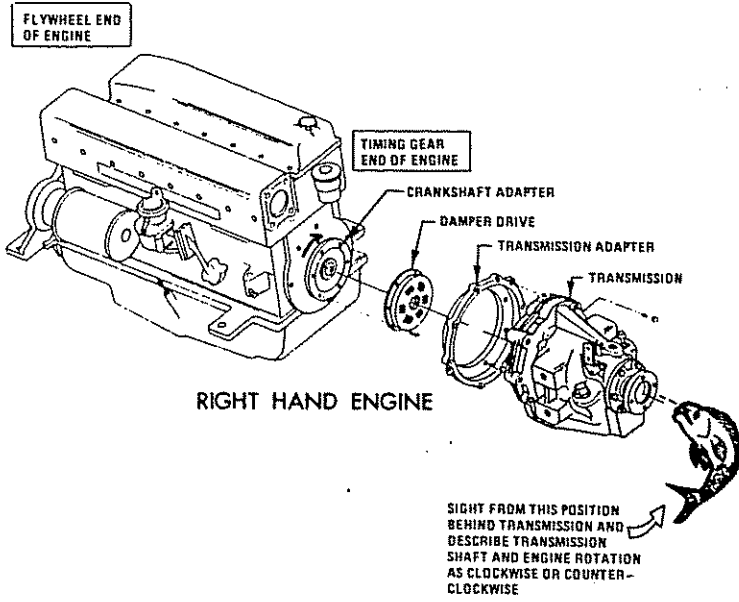

FIGURE 16 TYPICAL TIMING GEAR END INSTALLATION
Modern marine engines are available with left-hand (L.H.) or right-hand (R.H.) turning crankshafts. An engine which rotates clockwise when viewed from the front or timing end would be described as having counter clockwise rotation when viewed from the rear or flywheel end of the engine. It is therefore important that a position be selected from which rotation is described so that confusion will not exist. A transmission may be mounted to either the flywheel or timing gear end of the engine, see figures 16 & 17. It is therefore necessary to describe engine rotation with respect to the transmission when selecting an engine and transmission combination.
- 1) Remove the four bolts which hold the pump to the transmission, (Fig. 16).